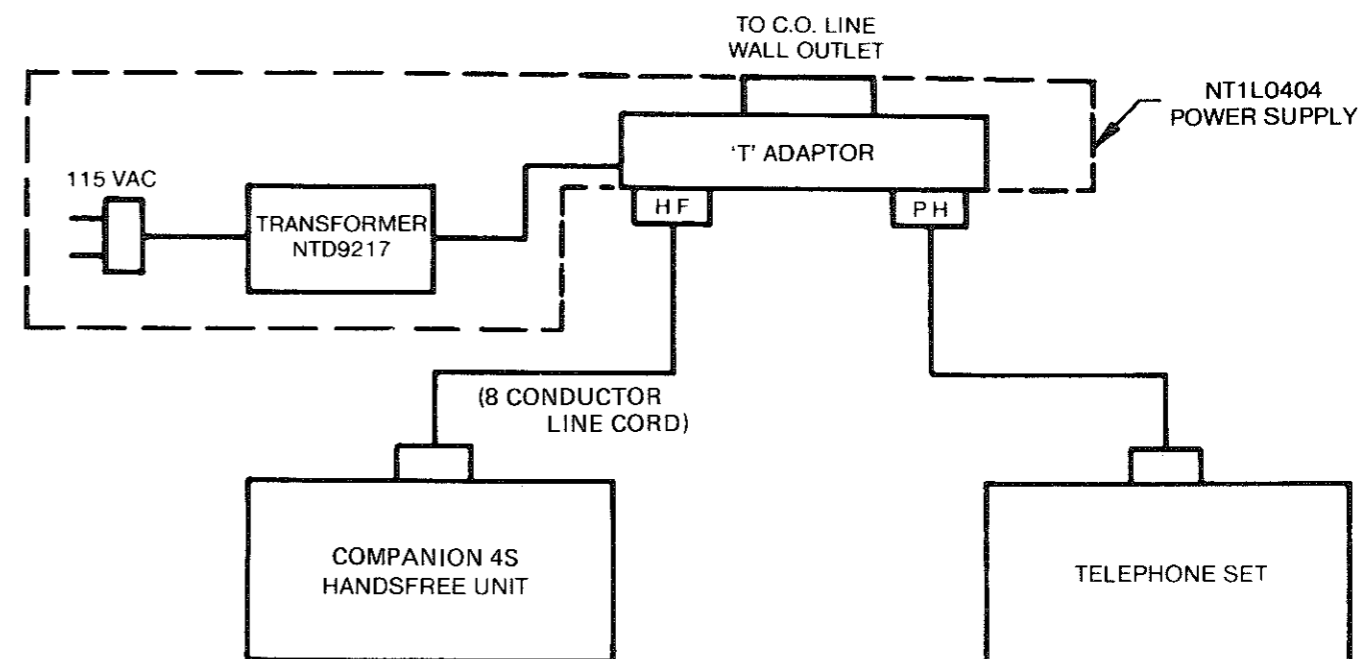

Fig. 1 — NT1L06AA Handsfree Unit - Connections
- 4.02 Insert the modular plug, on the other end of the line cord, into the power supply 'T' adapter jack labelled HF (handsfree). Ensure that the plug is properly seated (audible click) and installed in the correct jack. Refer to connection information block diagram, Fig. 1, for details.